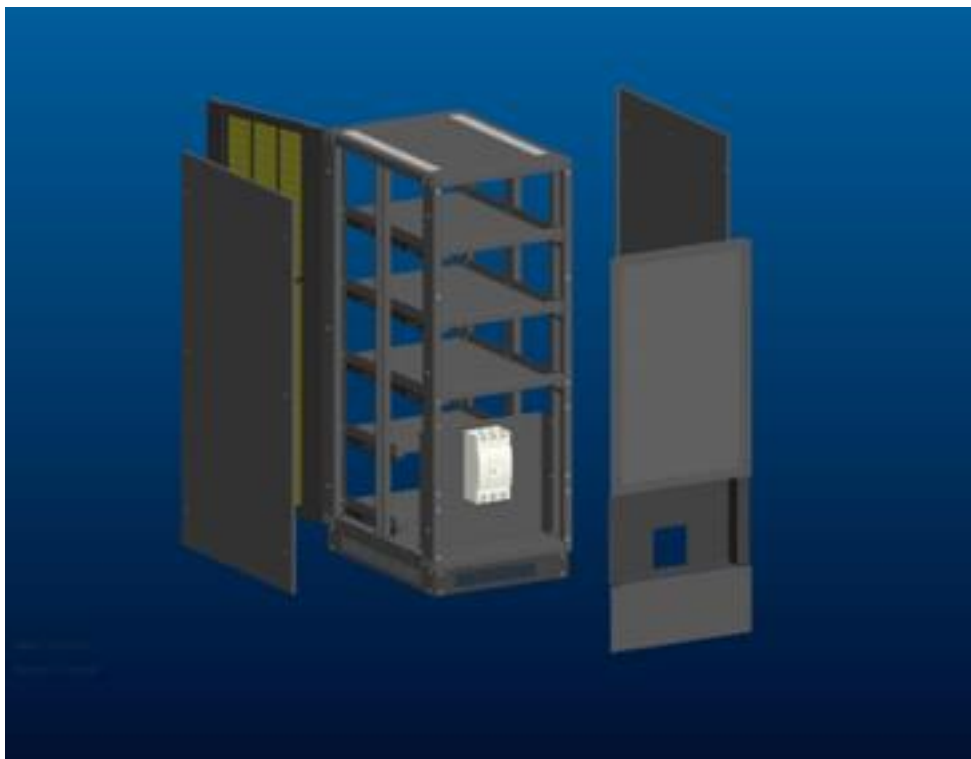

Figure 2
1. Remove the side and rear wall panels, see Fig.2.
7. Remove the side and rear wall panels, see Fig.2.